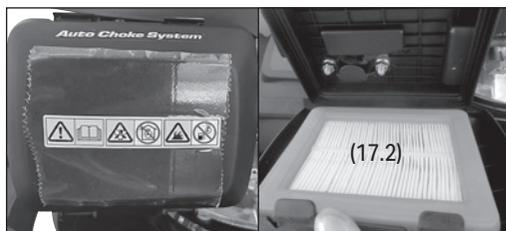

Fig.24
8.4 Air Filter Care (Fig.22 – Fig.24)